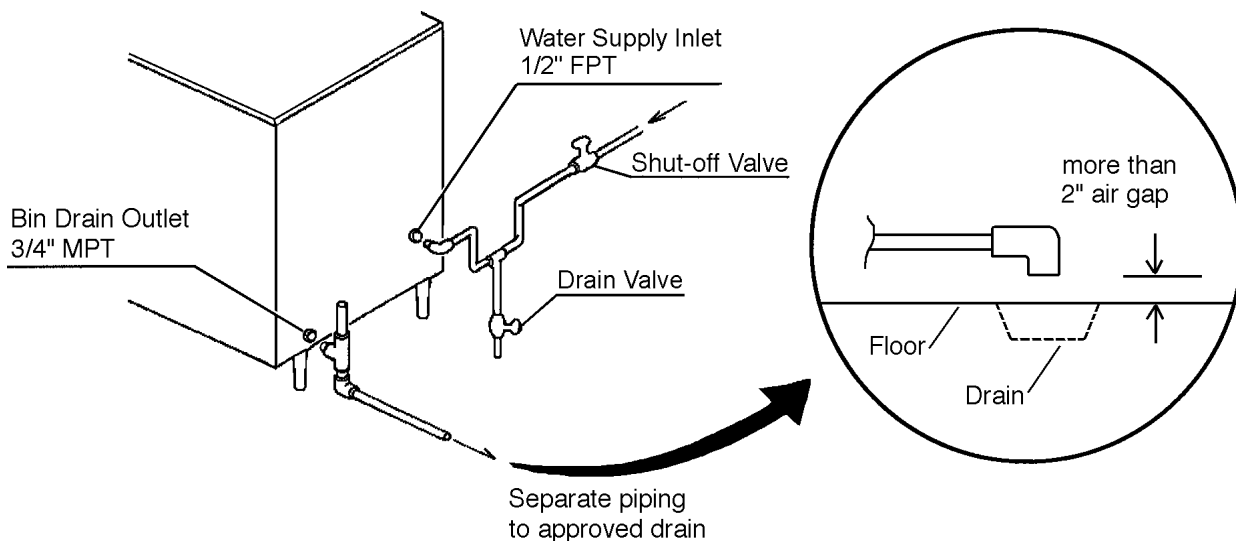

Fig. 4
6. WATER SUPPLY AND DRAIN CONNECTIONS - See Fig. 4